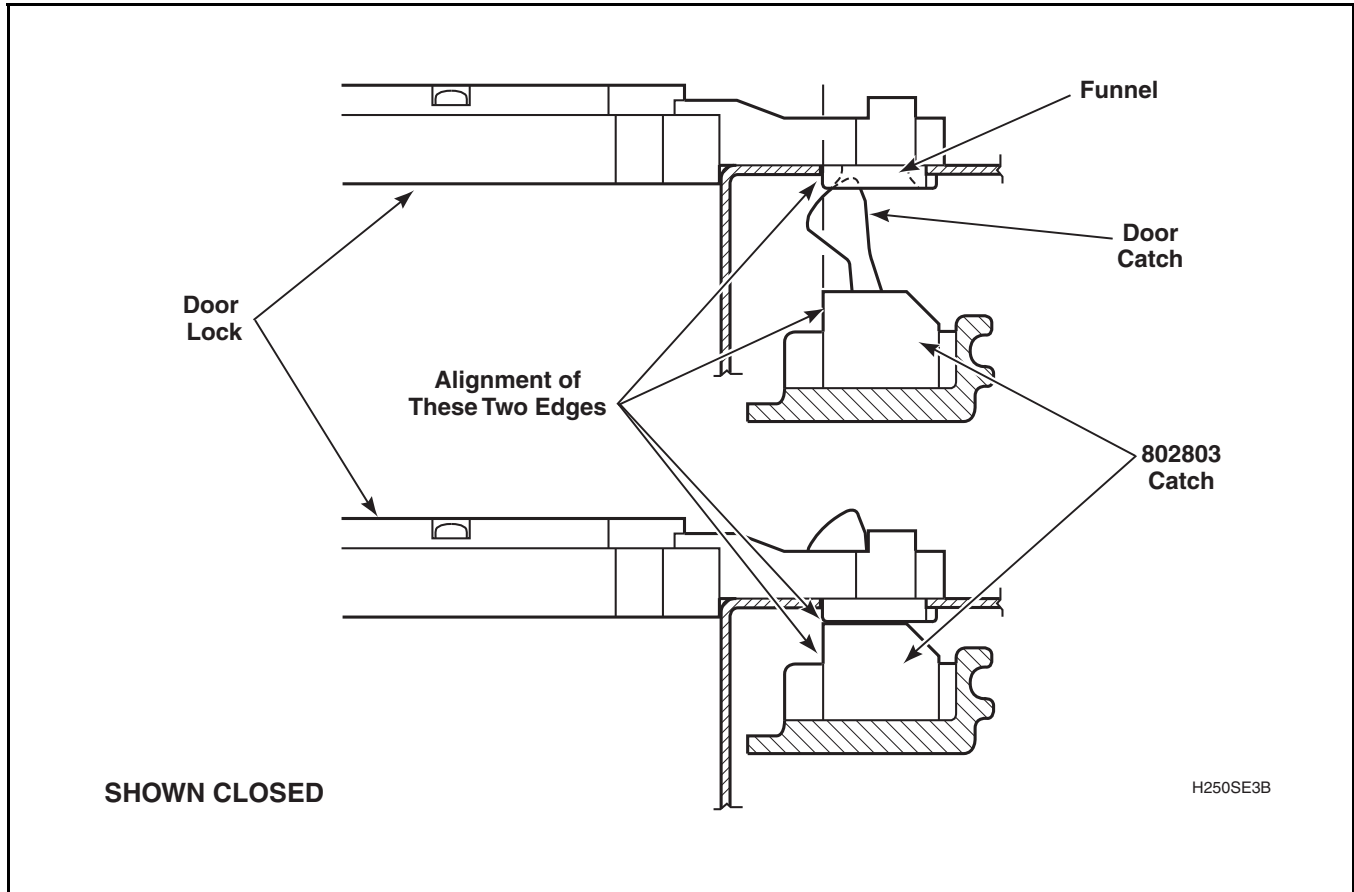

Figure 9
- f. Adjust door catch so the outside edge is aligned with the edge of the lock. Refer to *Figure 9*.
- g. Visually check that the door catch properly engages the funnel of the door latch/switch assembly. Refer to *Figure 9*.